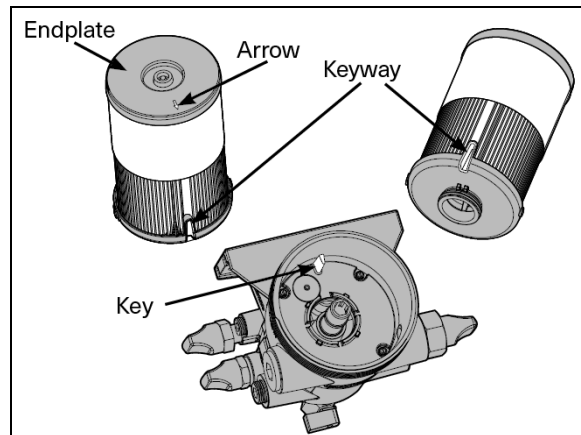

FIGURE 9: KEYWAY ON FUEL PRO 386 FILTER ONLY
9. Install the new filter element. Position the filter element so the key is lined up with the keyway on the separator plate of the housing (Figure 9). Use the arrow on the top of the endplate to align the filter. Ensure the filter element is fully seated by firmly pushing on the endplate. The filter should not rotate freely.